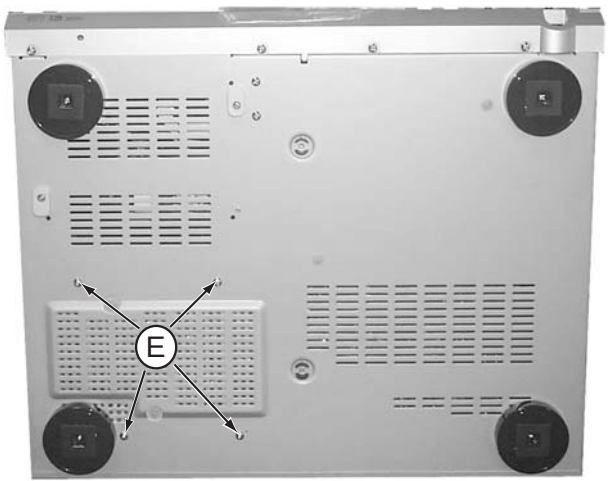

Figure 7
- 1) Loosen 4 screws "E" on the bottom cover as shown in figure 7.